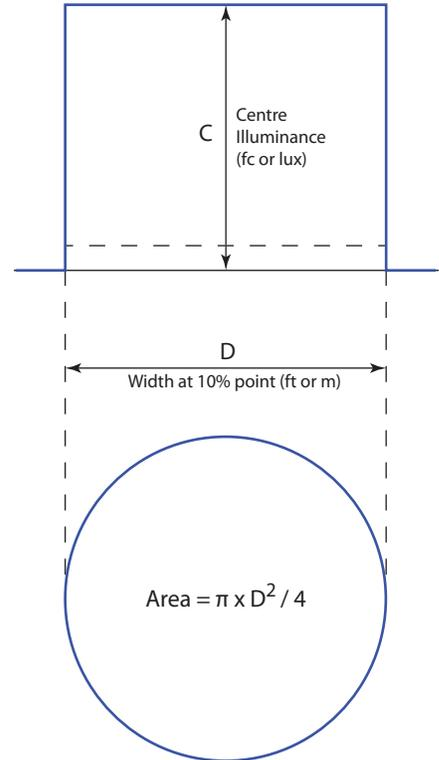

Figure 3 – calculating the rotated shape's volume
**Figure 3** shows this case in more detail.